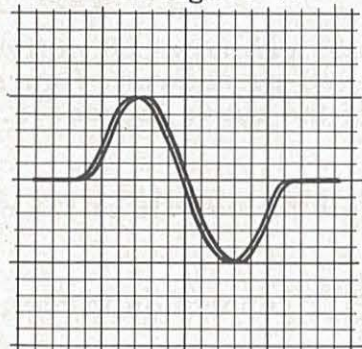

FIG. 9. DISCRIMINATOR RESPONSE - IN PHASE - BLANKING OFF
6. Advance the oscilloscope vertical gain until the pattern is one to two inches high. The pattern will be two S-shaped response curves. Adjust the PHASING control to bring the curves in phase as shown in figure 9.
7. Adjust the F.M. SWEEP so the response curve covers most of the trace as shown in figure 9. Readjust the PHASING control if the traces separate. If the response